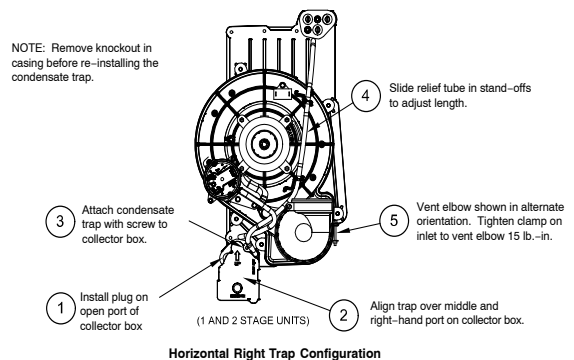

**Fig. 9 – Downflow Trap Configuration**
When the furnace is installed in the downflow position, the condensate trap will be initially located at the upper left corner of the collector box, as received from the factory. See the top image in Fig. 9. When the furnace is installed in the downflow orientation, the condensate trap must be relocated for proper condensate drainage. See the bottom image in Fig. 9.
- Fig. 9 shows the condensate trap and tubing before and after relocation. Refer to Fig. 9 to begin the trap conversion.